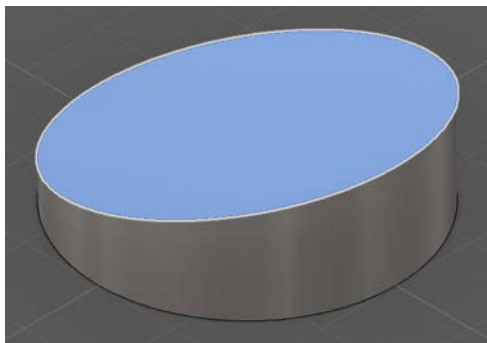

Fig. L01
- b. Turn X-angle slide to 15deg (Fig.L01).